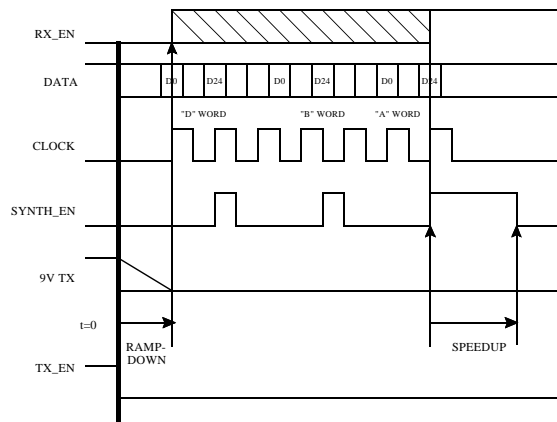

Figure 3-7 TX TO RX TIMING DIAGRAM
1. TX_EN is turned OFF. This signal is shaped. Refer to Figure 3-7.